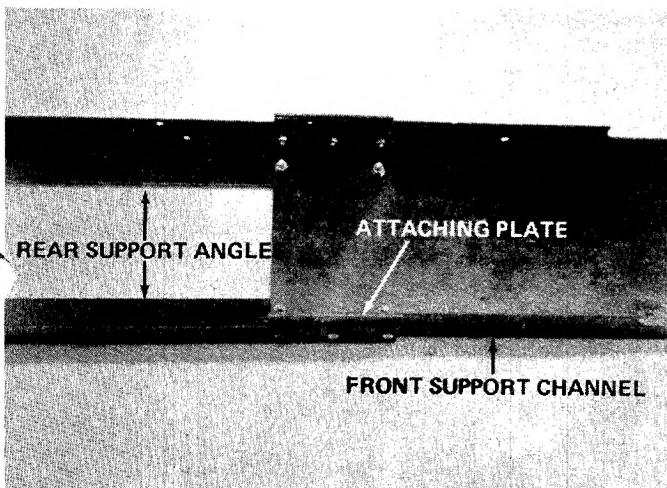

FIGURE 9
- Raise front support channel up and secure the bottom four holes with hex bolts (G), lock washer (H) and hex nuts (I). See figure 9.